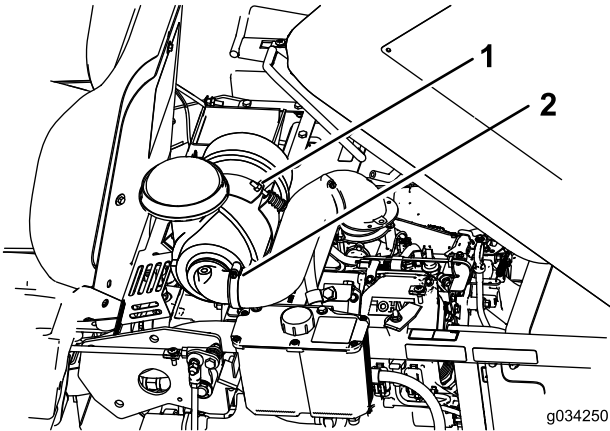

Figure 31
4. Loosen the bolt holding the air cleaner (Figure 31).
5. Loosen the clamp holding the hose and remove the air cleaner (Figure 31).